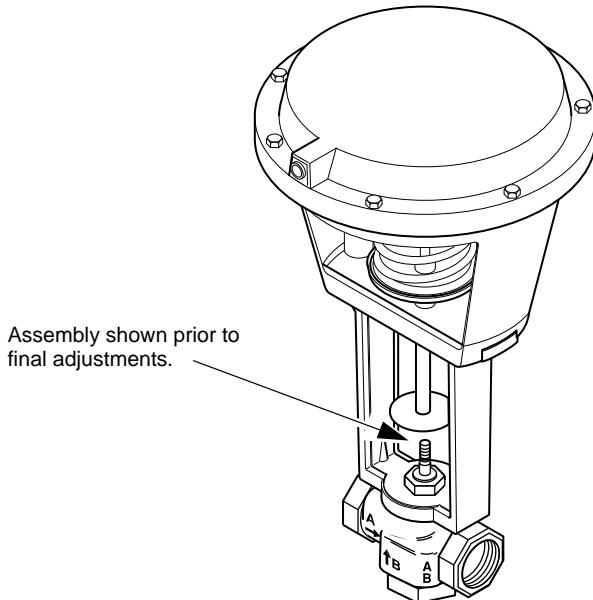

Figure-2 Typical MK-66X1 Series Actuator Using the AV-430 Valve Linkage.
8. Secure the actuator, using the two bolts provided. For a view of the completed assembly, see Figure-2.